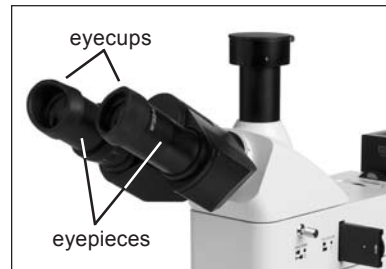

Figure 8
9. Remove the two packing caps from the eyetube openings and set aside with the other packaging as they will not be needed. Slide the eyepieces into the eyetubes and ensure they are fully seated. If you wish you may attach the eyecups to the ends of the eyepieces, though this step is optional and eyeglass wearers especially may choose not to install the them (figure 8).